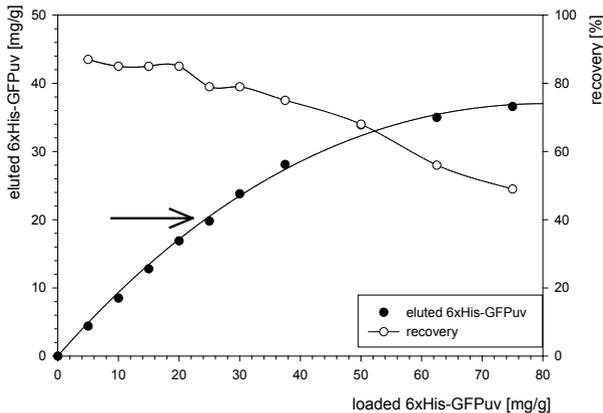
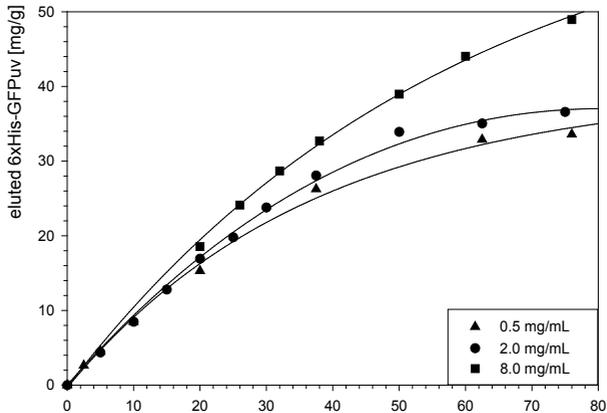

Figure 2 Binding behaviour of 6 x His-GFPuv to Protino[®] Ni-IDA Resin
Figure 3 Binding behaviour of 6 x His-GFPuv to Protino® Ni-IDA at different concentrations of the polyhistidine-tagged protein in the sample
The binding behaviour of any polyhistidine-tagged protein to Protino® Ni-IDA can be examined by calculating the amount of protein that is eluted as a function of the amount of protein that has been loaded (see Figure 2). Please note that the resulting graph will vary in dependence on characteristics and concentration of the individual His-tag protein. The binding curve can be divided in three stages:
- 1. Stage of maximum recovery.** At this stage the loaded protein is bound to the resin nearly quantitatively and can be eluted nearly quantitatively, too (the binding curve is almost linear, see Figure 2, • eluted His-GFPuv).
Figure 2 shows a plot of the amount of eluted 6 x His-GFPuv against the amount of loaded 6 x His-GFPuv. The binding curve can be divided in three stages:
Under the above mentioned conditions the binding capacity of Protino[®] Ni-IDA for 6 x His-GFPuv is approximately 20 mg protein per g of resin (see arrow, Figure 2). At this point the protein recovery is > 80 %. Consequently the following amounts of 6 x His-GFPuv have to be loaded: For optimal recovery: load ~ 20 mg protein per 1 g of Protino[®] Ni-IDA Resin, for maximum yield: load ~ 75 mg protein per 1 g of Protino[®] Ni-IDA Resin.
Recovery rates and yield can be increased by using samples containing higher concentrated polyhistidine-tagged protein (6 x His-GFPuv). Figure 3 shows that the yield of purified polyhistidine-tagged protein is not only depending on the total amount of target protein loaded on the column (also see Figure 2) but also on its concentration in the lysate. Consequently the concentration of target protein in the sample should be as high as possible.